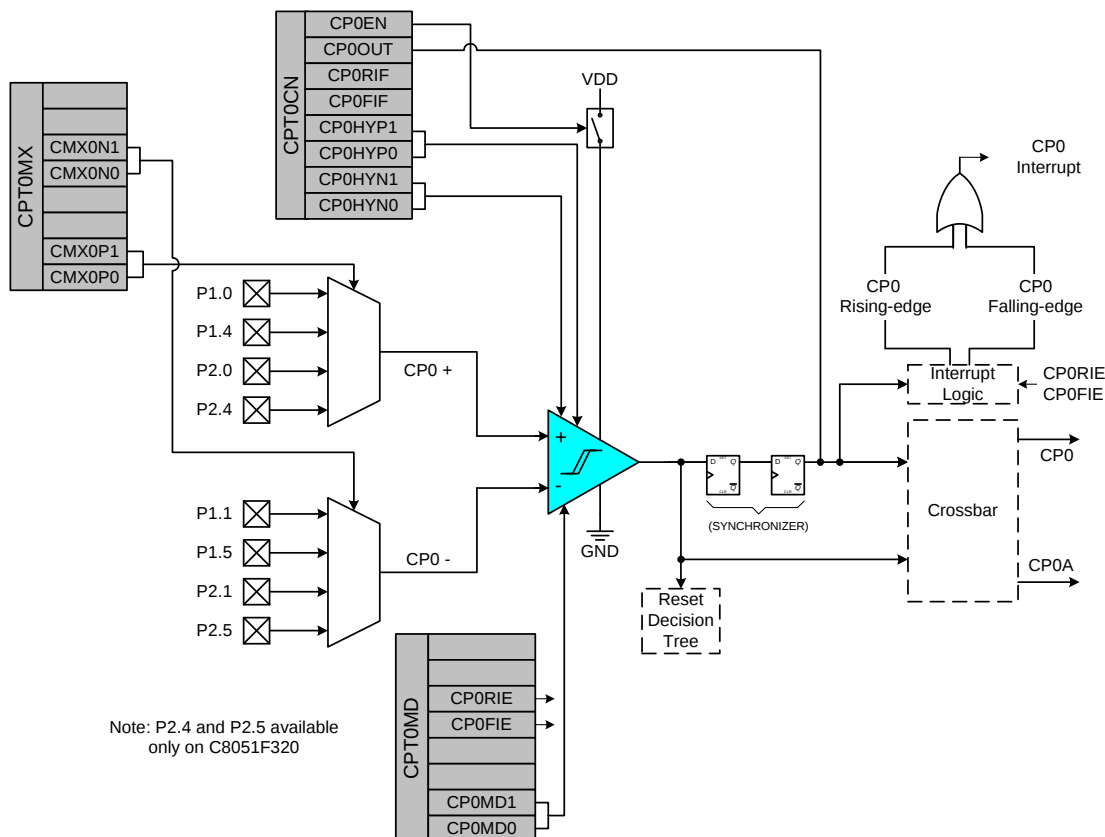
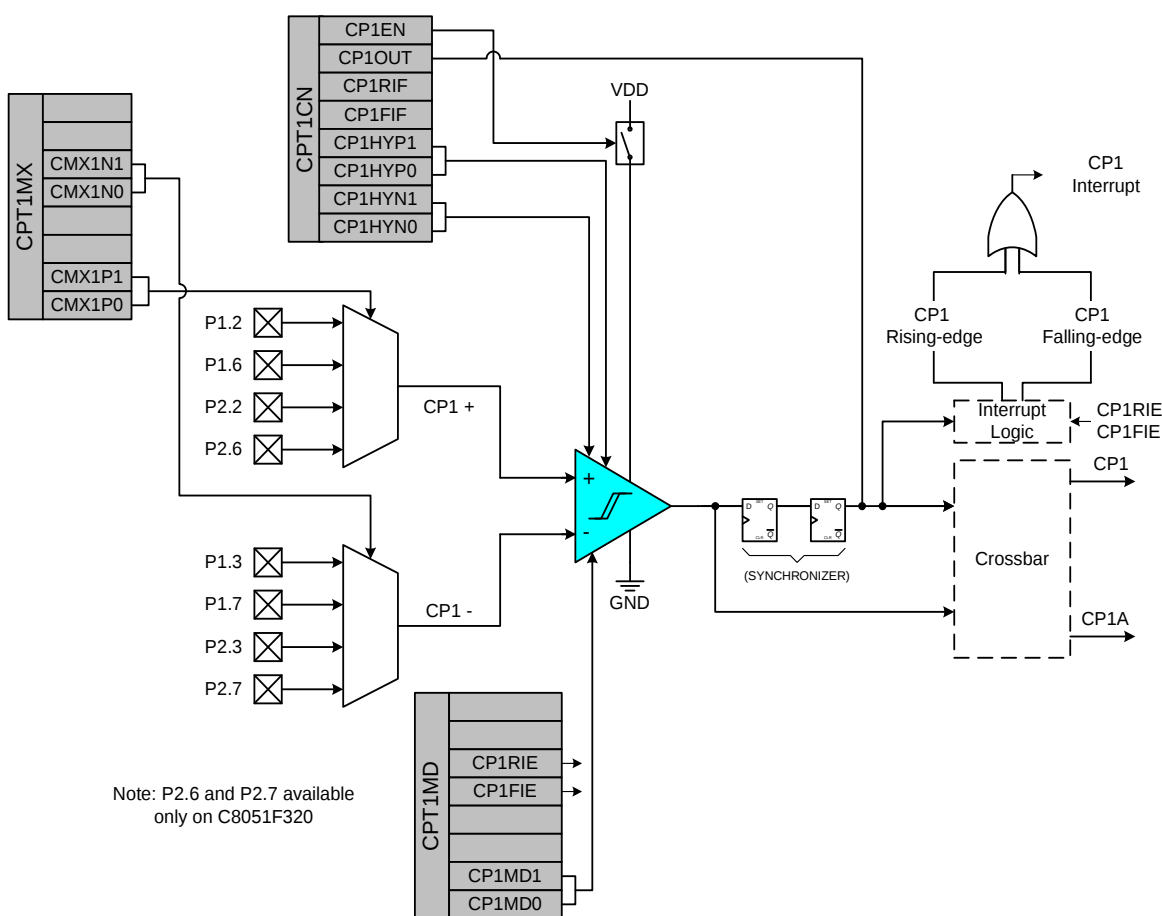

Figure 7.1. Comparator0 Functional Block Diagram
Figure 7.2. Comparator1 Functional Block Diagram
C8051F320/1 devices include two on-chip programmable voltage Comparators: Comparator0 is shown in Figure 7.1; Comparator1 is shown in Figure 7.2. The two Comparators operate identically with the following exceptions: (1) Their input selections differ as shown in Figure 7.1 and Figure 7.2; (2) Comparator0 can be used as a reset source.
The Comparator0 inputs are selected in the CPT0MX register (Figure 7.2). The CMX0P1–CMX0P0 bits select the Comparator0 positive input; the CMX0N1–CMX0N0 bits select the Comparator0 negative input. The Comparator1 inputs are selected in the CPT1MX register (Figure 7.5). The CMX1P1–CMX1P0 bits select the Comparator1 positive input; the CMX1N1–CMX1N0 bits select the Comparator1 negative input.
Comparator hysteresis is programmed using Bits3–0 in the Comparator Control Register CPTnCN (shown in Figure 7.1 and Figure 7.4). The amount of negative hysteresis voltage is determined by the settings of the CPnHYN bits. As shown in Figure 7.3, settings of 20, 10 or 5 mV of negative hysteresis can be programmed, or negative hysteresis can be disabled. In a similar way, the amount of positive hysteresis is determined by the setting the CPnHYP bits.